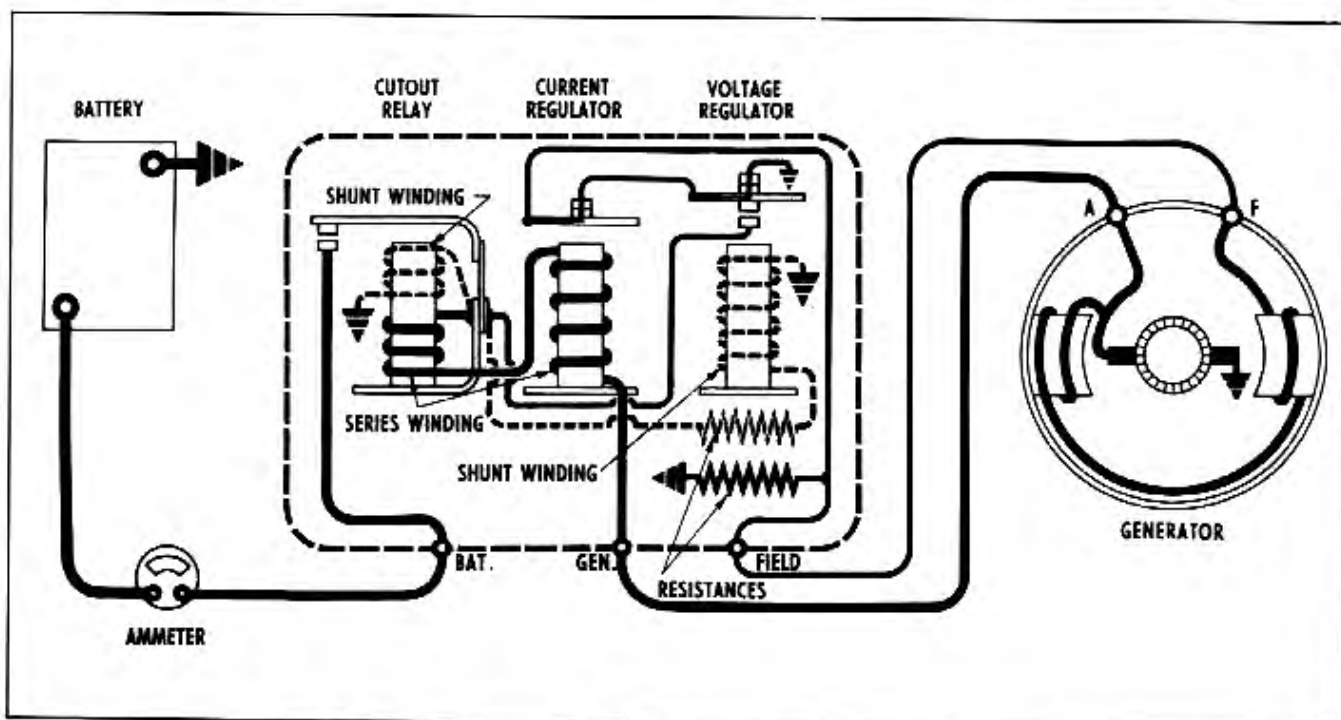

Fig. 12-7 Charging Circuit With Double Contact Voltage Regulator
are of the conventional type and are checked and adjusted in the normal manner. The double contact voltage regulator is basically the same as the standard voltage regulator with two major exceptions (1) Lower value of regulating resistor (2) An extra set of contacts (herein designated as the "lower set") which is connected across the generator field. The charging circuit for the heavy-duty double contact voltage regulator is shown in Fig. 12-7.